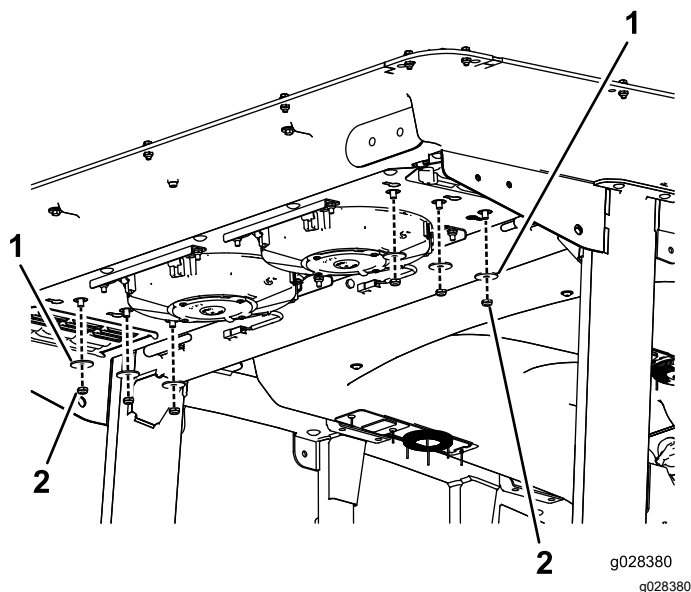

Figure 137
2. Remove the 6 nuts and washers from the bottom of the rear of the cab (Figure 137).